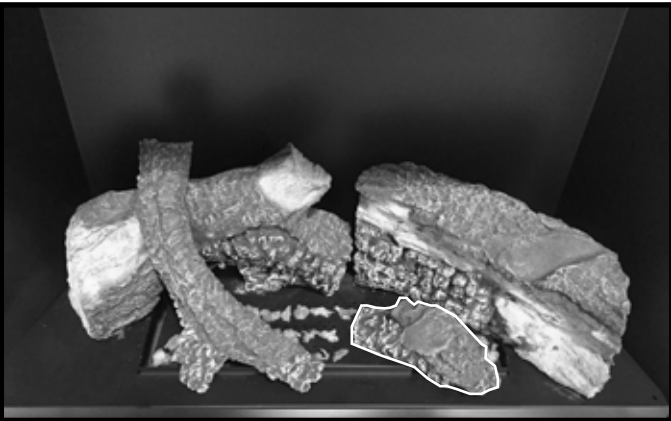

Figure 8. Install Burner Log
- Remove small burner log from packaging. This log has two holes on the bottom. These holes correspond to two log pins located on the burner top. Place log over the two log pins as shown Figure 8.